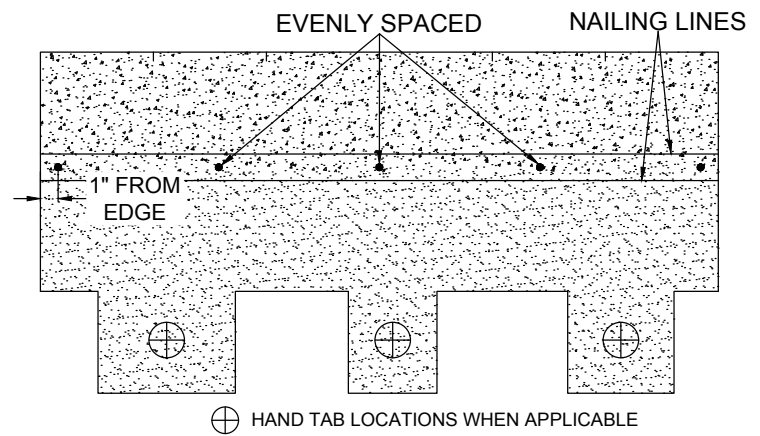

Figure 6 - 5-Nail Fastening Pattern and Hand-Tab Locations
Nailing Pattern: Use five (5) fasteners for each shingle, evenly spaced across the shingle, and placed within the *high nailing area* designated by the parallel *nailing lines*. Ensure the outside fasteners are approximately 1" (25 mm) from each edge. (See Figure 6)
To hand-seal a Windsor® designer shingle, apply a quarter-size dab of asphalt roof cement conforming to ASTM D4586 under each shingle tab, and press them firmly into the cement (see Figure 6).